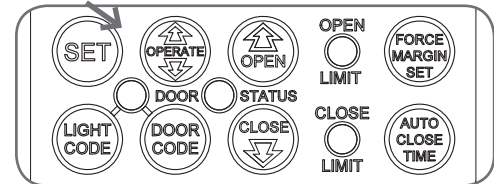

Fig.6.8.1
- Press the OPERATE button to open the door (Fig.6.8.1).
- Press the OPERATE button to close the door (Fig.6.8.1).